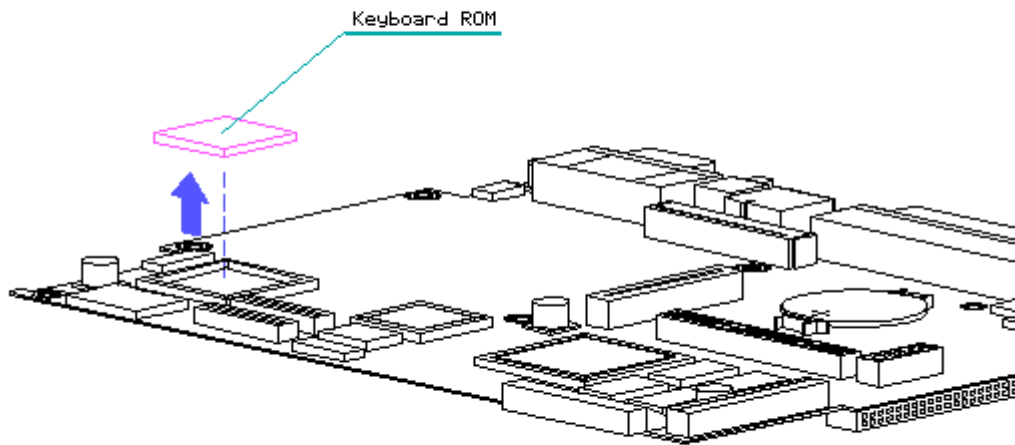

Figure 2-34. Removing the Keyboard ROM from the Processor Board
2. Remove the keyboard ROM from the processor board by gently lifting up on the keyboard ROM with the ROM removal tool (Figure 2-34).